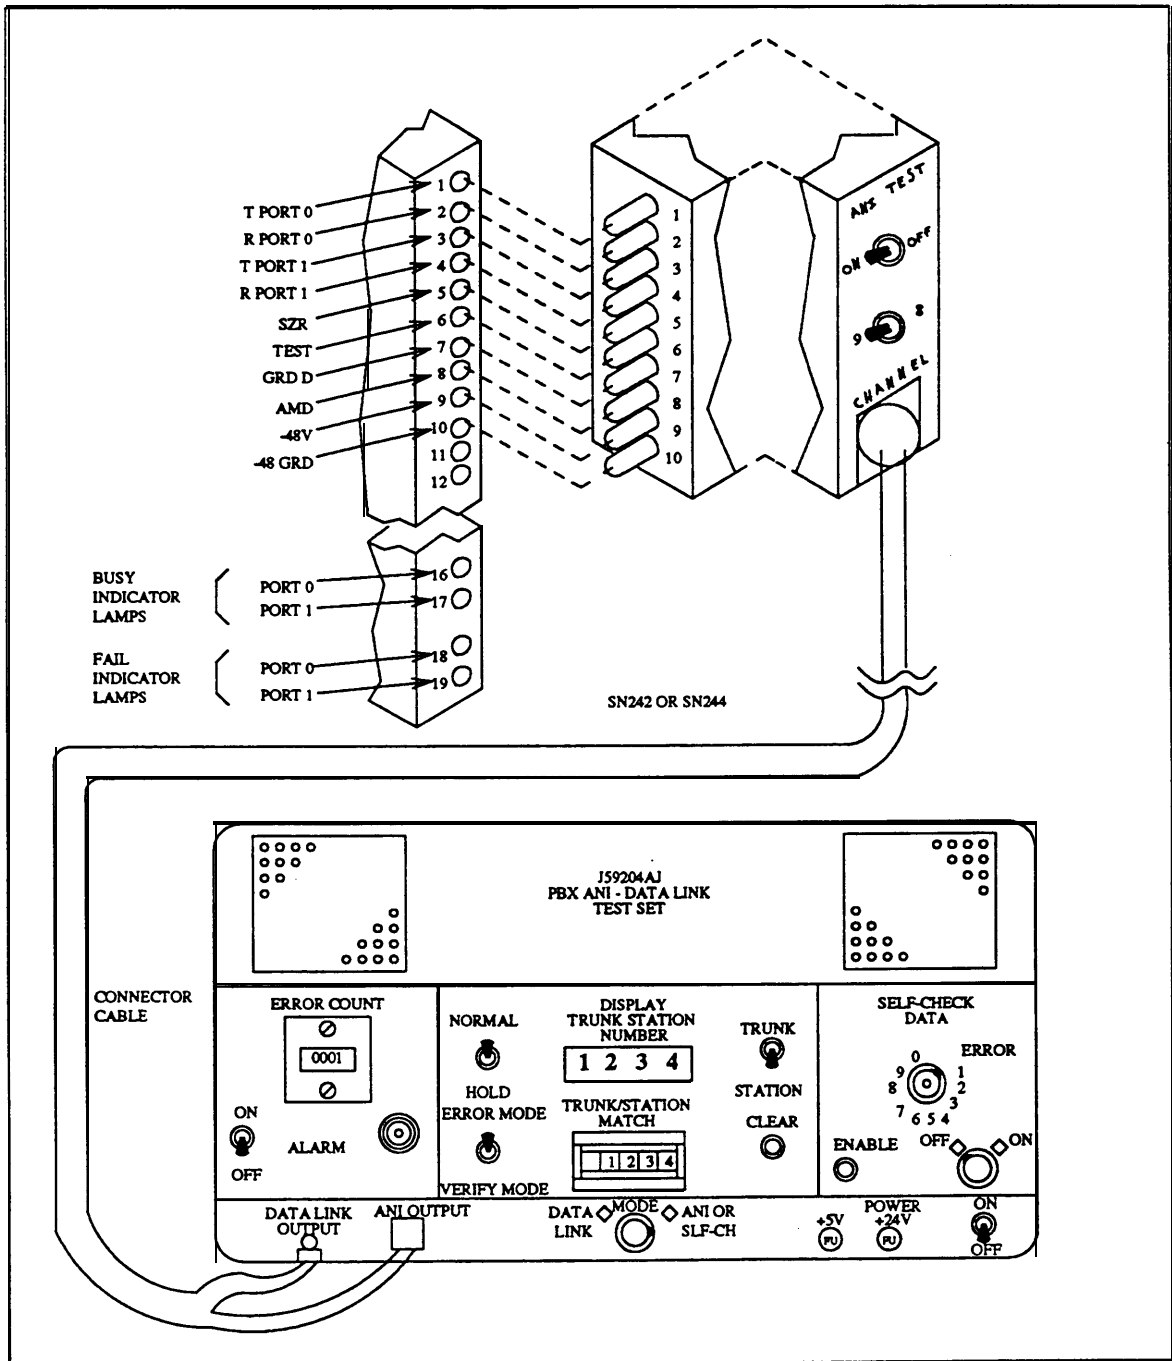

Figure 5-3. ANI Test Set
1. Make sure that power is **OFF** on the ANI test set (see Figure 5-3).